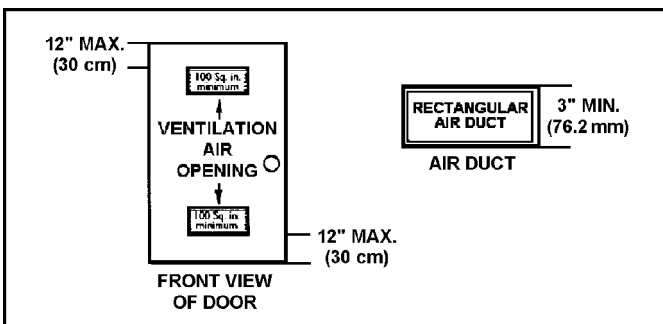

FIGURE 4.
A. ALL AIR FROM INSIDE BUILDINGS: (See Figure 4 and 5)